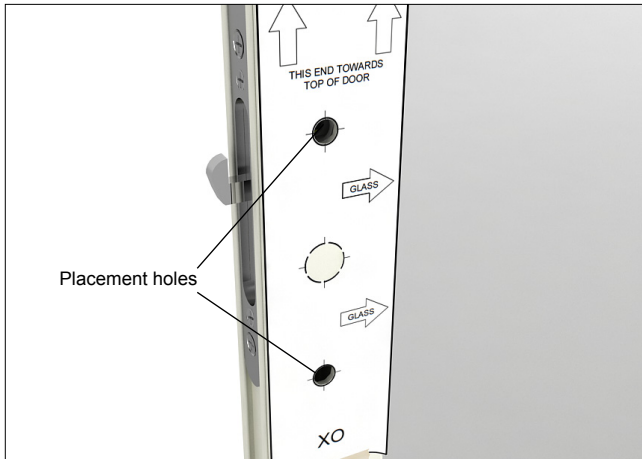

Figure 4
2. Align the top and bottom placement hole of the template with the exterior holes of the door. Be sure to point the direction arrows toward the glass and top of the panel. See figure 4. Attach the template to the door with tape.